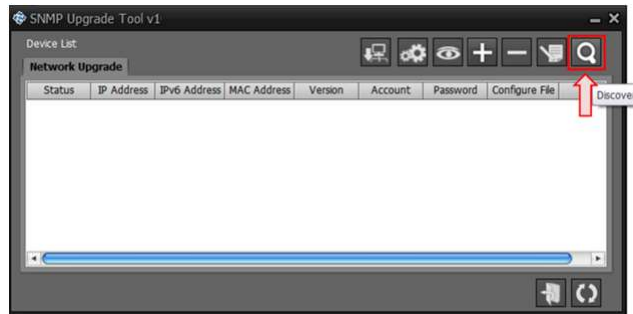

Figure 2
- Click **【Q】** to search device on your LAN, as following Figure 2.